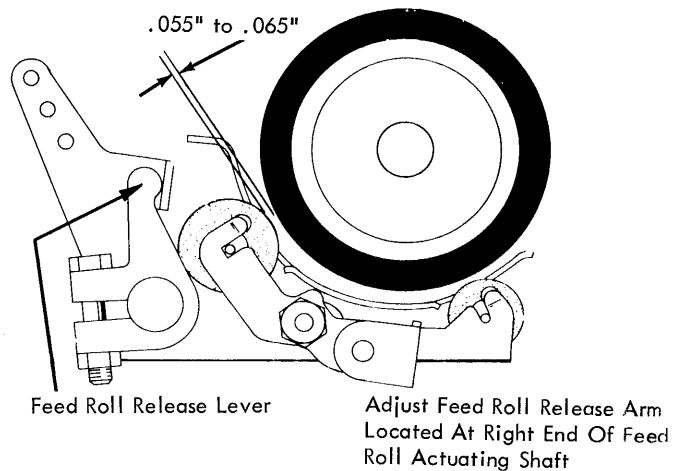

FIGURE 263. Paper Release Adjustment
7. Paper Release - Adjust the feed roll release arm (Fig. 263) to obtain a release clearance of .055" to .065" between the rear feed roll and the platen.
NOTE: The clearance should be the same at each end of the feed roll. The clearance can be equalized by adjusting either the left or right feed roll release lever (Fig. 263).